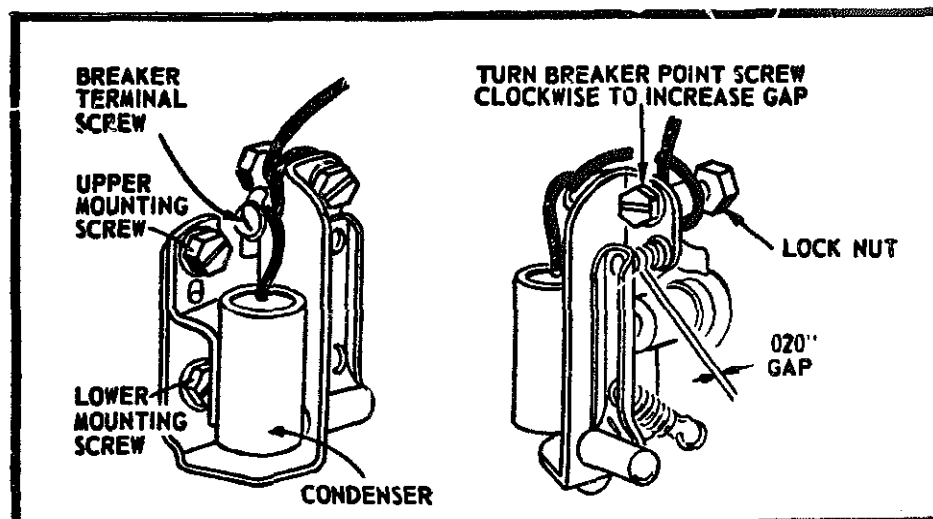

Fig. 2-10. The breaker-point screw determines the point gap. (Courtesy Briggs & Stratton Corp.)
- Remove the upper mounting screw (Fig. 2-10).